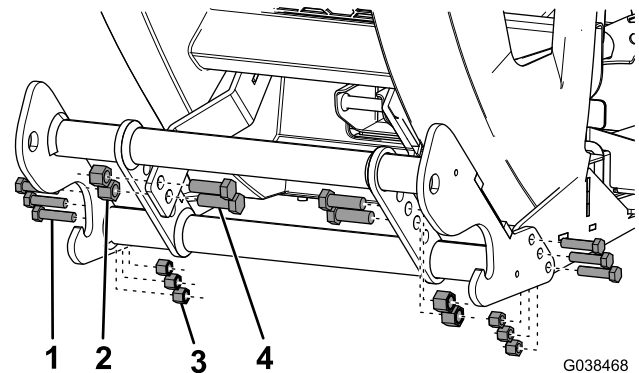

Figure 11
8. Secure the pushbeam to the brackets using 4 bolts (1/2 inch) and 4 locknuts (1/2 inch) as shown in Figure 11. Torque the bolts to 31 N·m (23 ft·lb).
9. Secure the pushbeam to the vehicle frame using 6 bolts (3/8 x 1-1/2 inch) and 6 locknuts (3/8 inch) as shown in Figure 11. Torque the bolts to 76 N·m (56 ft-lb).
11. Secure the pushbeam to the brackets using 4 bolts (1/2 inch) and 4 locknuts (1/2 inch) as shown in Figure 11. Torque the bolts to 31 N·m (23 ft-lb).
12. Secure the pushbeam to the vehicle frame using 6 bolts (3/8 x 1-1/2 inch) and 6 locknuts (3/8 inch) as shown in Figure 11. Torque the bolts to 76 N·m (56 ft-lb).